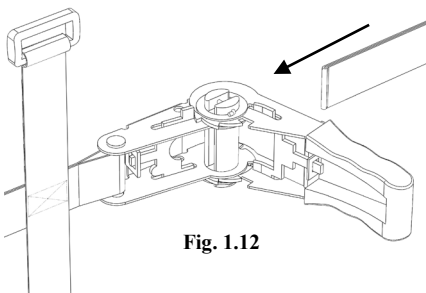

Fig. 1.12
- j.** With the Ratchet open, feed the loose end of the strap through the center slot so that the strap is coming towards the top of the ratchet handle (Fig 1.12). Do this until all the excess strap is through the ratchet center. **Ensure that the strap has not twisted.**